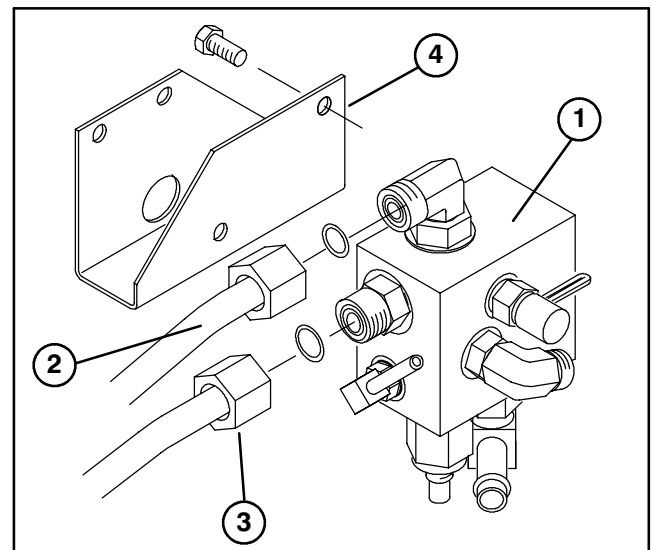

Figure 10
13. Mount manifold block assembly to manifold bracket with (2) 5/16–18 x 5/8" lg. flange head capscrews (Fig. 10). Torque screws to 145–190 in.-lb.
14. Loosely install other end of shorter hydraulic tube to elbow fitting on top of manifold block (Fig. 10).
15. Loosely install other end of longer hydraulic tube to straight fitting on front of manifold block (Fig. 10).